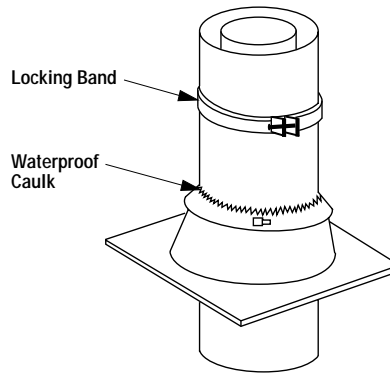

Figure 31
Step 8. Slide the FTF8 storm collar (ordered separately) over outer chimney, rest on flashing spacers and align with top surface of flashing. Insert tab in slot, pull tight and bend tab back over slot. Seal storm collar to outer chimney with roof caulking or mastic around entire circumference of pipe. Also add extra roof caulking to the tab/slot area to seal completely against water penetration (**Figure 31**). Check all joints very carefully to ensure no water intrusion can take place.
Step 9. Security Chimneys locking bands, Model FLB, may be required if the chimney extends too high above the roof flashing. As a general rule, if the chimney extends more than 6' above the roof flashing, the use of locking bands is advisable to strengthen the chimney assembly. Align the locking band at the chimney joint. Locking bands wrap around pipe joints equally covering the joints of both pipe sections. Use the nut provided and TIGHTEN snugly. Do not overtighten as this might damage the chimney section (refer to **Figure 31**).